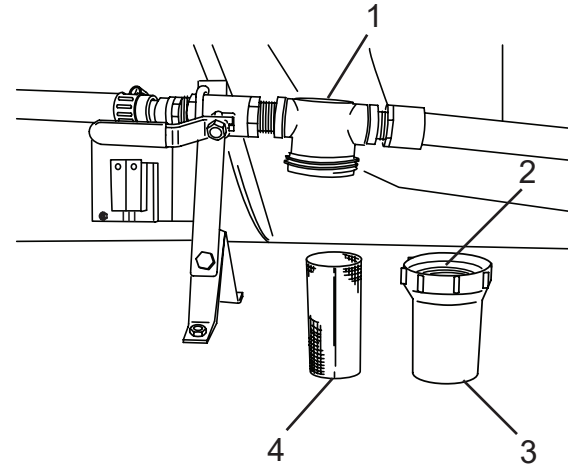

Figure 154
1. Remove (unscrew) the cup (Figure 154, Item 3), and remove the cup and strainer (Figure 154, Item 4) from the strainer head (Figure 154, Item 1).
2. Clean the strainer (Figure 154, Item 4) with clear water. Inspect the strainer. Replace if torn or damaged.
3. Inspect the cup seal (Figure 154, Item 2). Replace if torn or damaged.
4. Install the strainer (Figure 154, Item 4) and cup (Figure 154, Item 3).